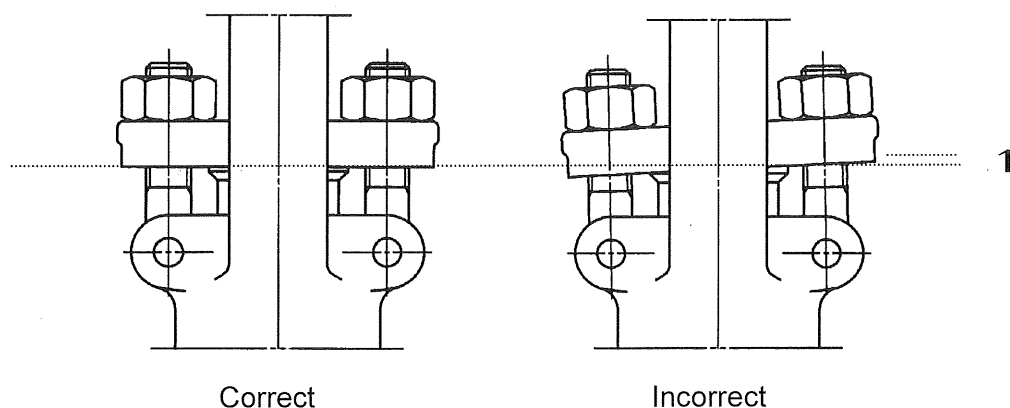

Figure 7.1 Examples for Adjustment (Tightening) of Gland Bolt Nuts
- 4) When tightening up the gland bolt nuts, the hand wheel should be turn now and then so to adjust the tightness of the gland packing, as shown in Figure 7.1. Tightening up the gland bolt nuts gradually and uniformly in order to avoid tendency to twist.